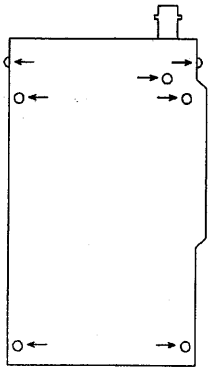

FIGURE 1
2. Remove the 7 screws from the back panel of the transceiver (Figure 1).